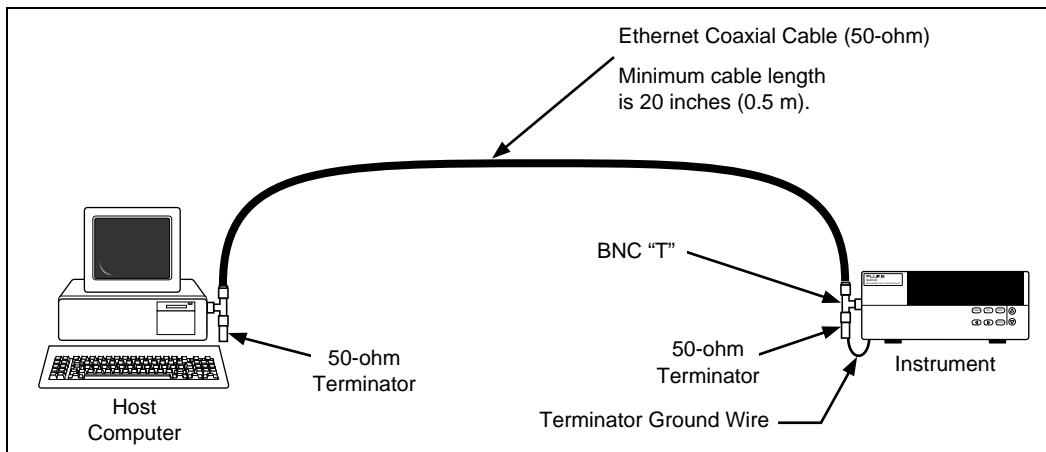

Figure 6-2. Performance Test Setup
1. **Connect the Instrument and the Host Computer** Connect the supplied 50-ohm coaxial cable, with a BNC "T" or "Y" and 50-ohm terminator, between the host computer BNC Ethernet port and the instrument BNC Ethernet port. The 50-ohm terminator with the ground lead is used at the instrument with the terminator ground lug connected to the ground terminal adjacent to the BNC port (Figure 6-2). See Chapter 2 for other interconnection methods.